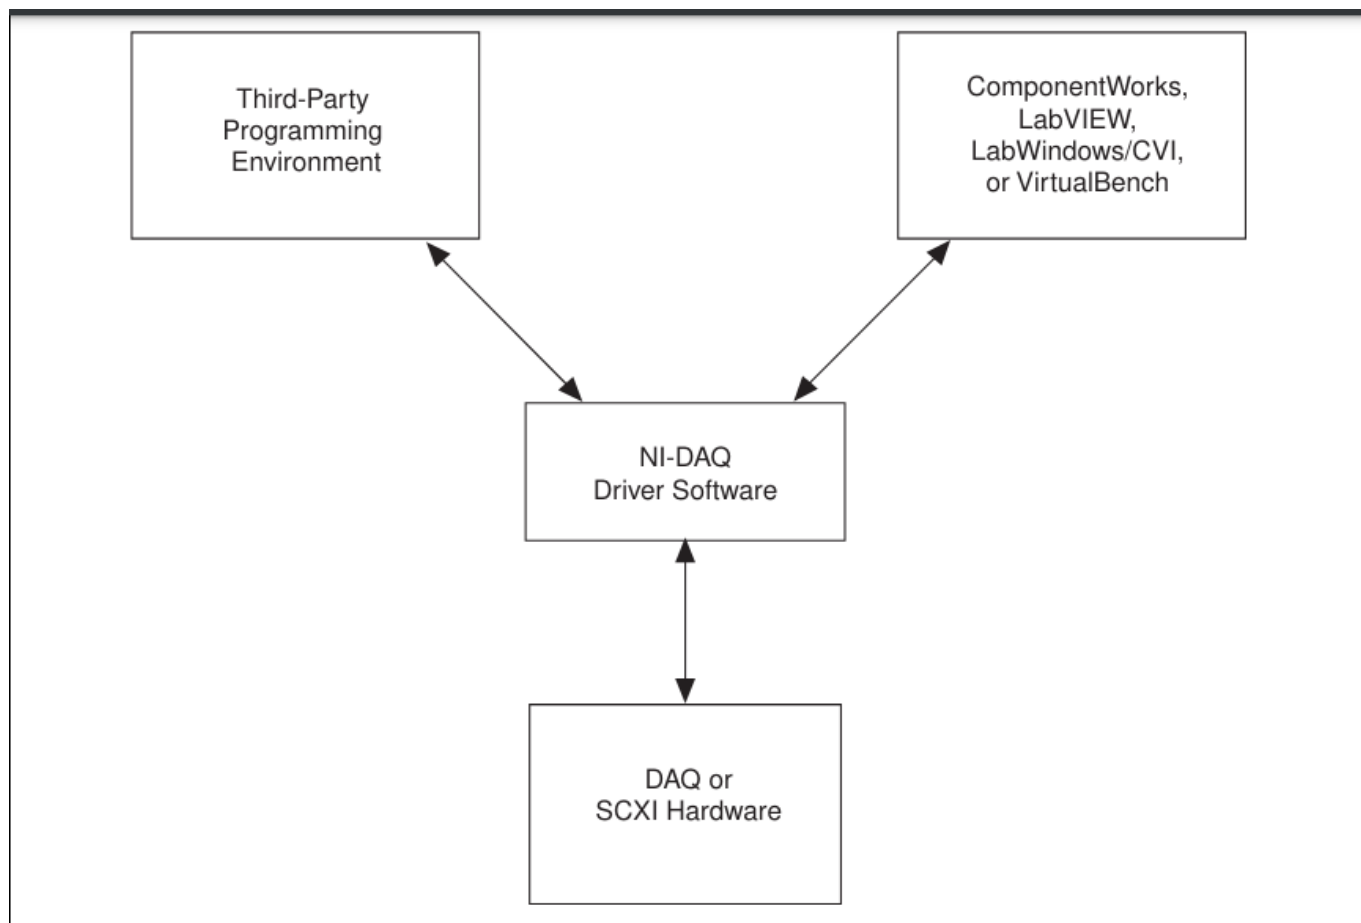

Figure 1-1. The Relationship between the Programming Environment, NI-DAQ, and Your Hardware
- NI-DAQ also internally handles the complex communication between the computer and the plug-in device, such as programming interrupts and DMA controllers. NI-DAQ maintains a consistent software interface among its different versions so that you can change platforms with minimal modifications to your code. Figure 1-1 illustrates the relationship between NI-DAQ and your National Instruments application software.